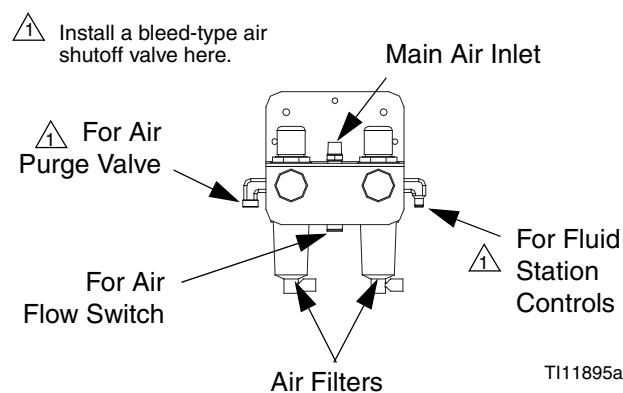

FIG. 5. Air Supply Control
- **Air line filter:** a 10 micron or better air filter is recommended to filter oil and water out of the air supply and help avoid paint contamination and clogged solenoids. See FIG. 5.
2. Install a bleed-type air shutoff valve into the control air filter inlet. See FIG. 5.